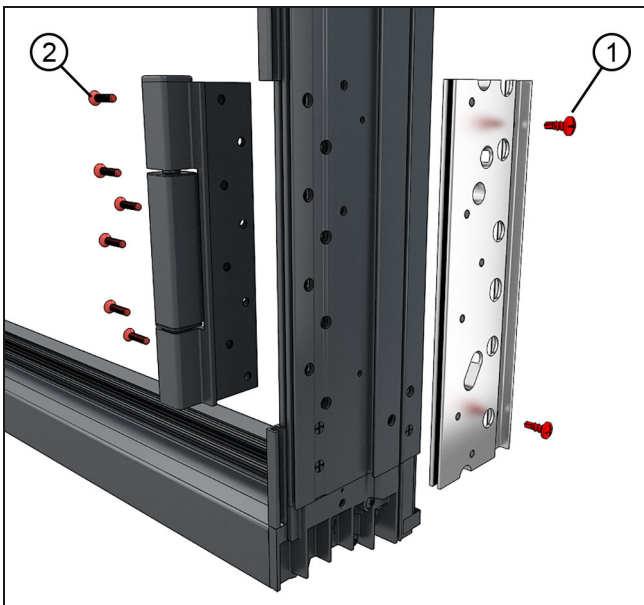

Figure 175
2. If you are mulling to the **Inswing hinge side**, remove the two fasteners that attach the backer to the jamb and the six fasteners that attach the hinge to the backer. See Figure 175.